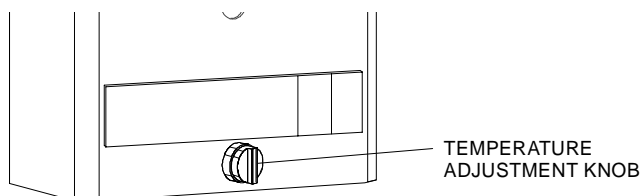

Fig. 12 - Temperature Adjustment Knob
2. The gas valve must be turned off by putting the On/Off switch to position "O" (see fig. 12). Wait five (5) minutes to clear out any gas. If you smell gas, STOP! Follow "B" in the safety information above. If you don't smell gas, go to next step.
The AquaStar 125FX LP and 125FX NG water heaters have a gas control that modulates burner input in response to flow. Its purpose is to ensure that the hot water temperature will remain steady, although the demand for water flow might vary (down to 1/2 gal/minute). To adjust the temperature on your AquaStar, turn on a hot water faucet to its maximum flow. At the AquaStar, turn the large knob located beneath the main gas controls on the front of the heater all the way to the right (clockwise). See Fig 12. This will produce a temperature rise of approximately 90°F at flow rates between .5 and 2.0 gallons per minute. Given that average incoming water temperatures are 50°F, this heater will produce approximately 140°F water at these flow rates. Turning the dial all the way to the left (counterclockwise) will produce a temperature rise of approximately 45°F for flow rates between 1.0 and 4.0 gallons per minute. This will result in a higher flow rate, but at cooler temperatures. Turning the dial to locations in